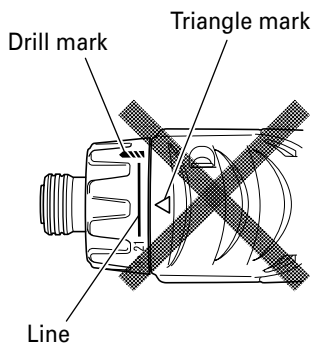

Fig. 7
- Do not use with the clutch dial set at the line between the number "21" and the drill mark "◁▷▷". Doing so may cause damage (See Fig. 7).